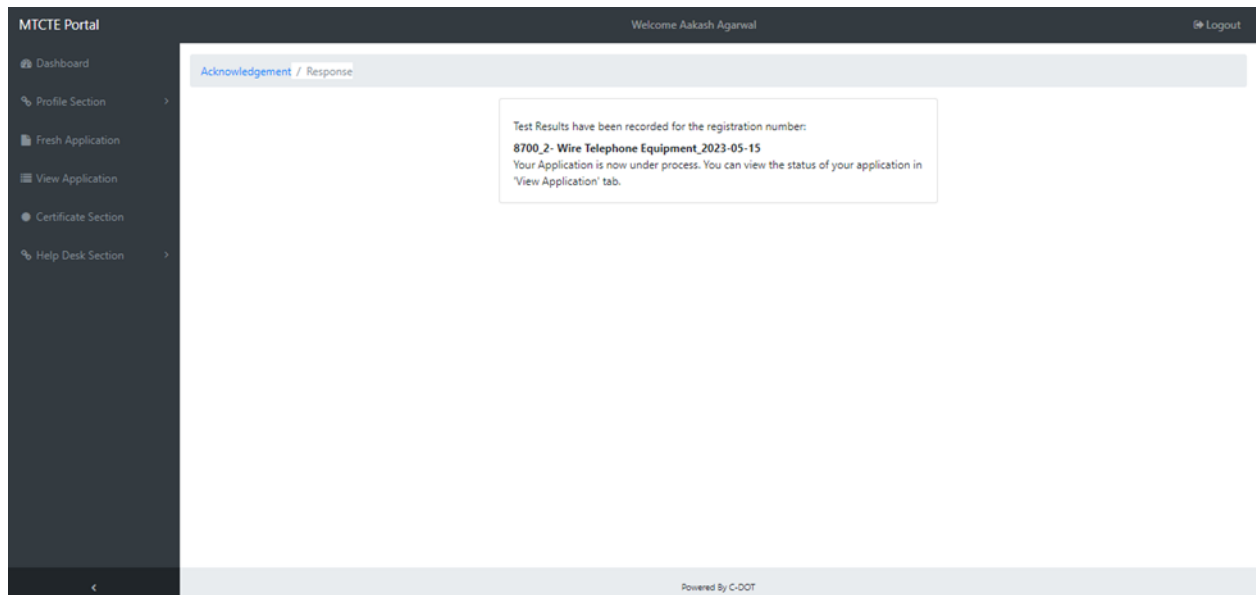

Fig. 61: Acknowledgement
c) Applicant will be shown the acknowledgement page (Fig. 61).